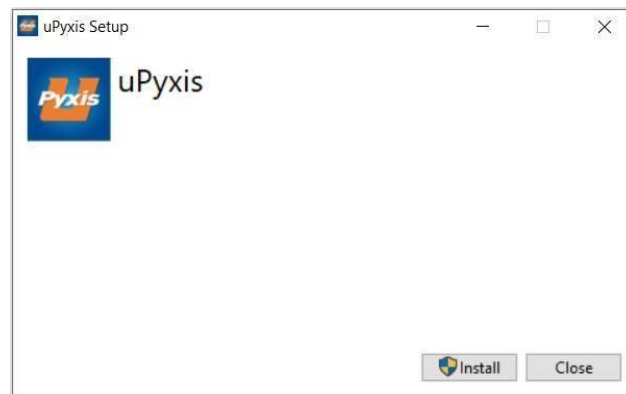

Figure 10. uPyxis® Desktop App installation
3. On **uPyxis®** Desktop App, click Device → **Connect via USB-Bluetooth** (Figure 10).
4. If the connection is successful, the ST-774 and its Serial Number (SN) will be displayed in the left pane of the **uPyxis®** window. ***NOTE*** After the sensor and Bluetooth is powered up, it may take up to 10 seconds for the adapter to establish the wireless signal for communication.